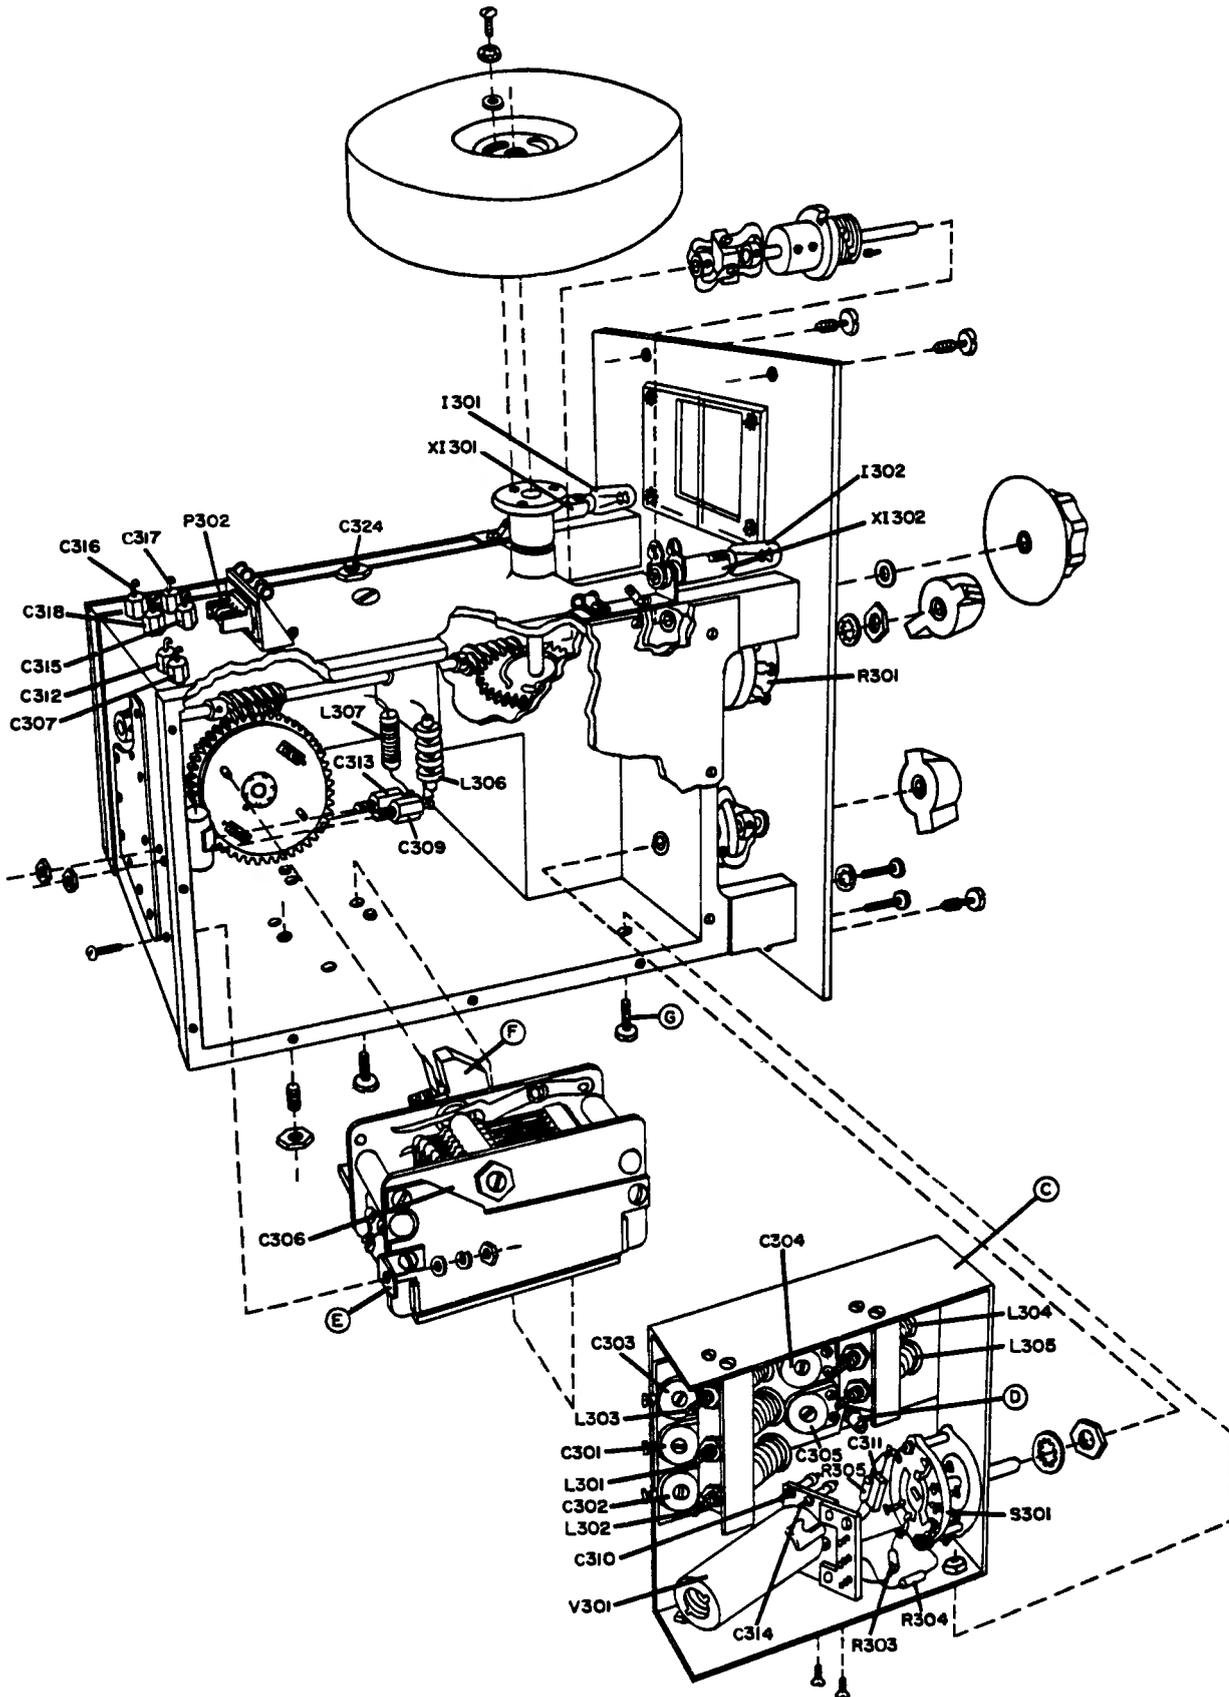

Figure 4-8. Signal Generator SG-32/TRM-1, Exploded View, Left Side
4-30. To remove oscillator subassembly C, figure 4-8, proceed as follows:
- a. Unsolder the ribbon conductor with insulating sleeve from standoff terminal D, figure 4-8. Unsolder the other ribbon conductor from the dummy terminal of switch S301.
- d. Remove the two binding-head screws G, figure 4-8, holding the oscillator subassembly to the casting.
- d. Remove the grounding screw fastening bracket E, figure 4-8, from the casting.
- f. Remove the tuning capacitor by drawing straight out to disengage coupling block F, figure 4-8, from the two pins on the driving gear; and then drawing out at slight angle to clear standoff capacitors C309 and C313.